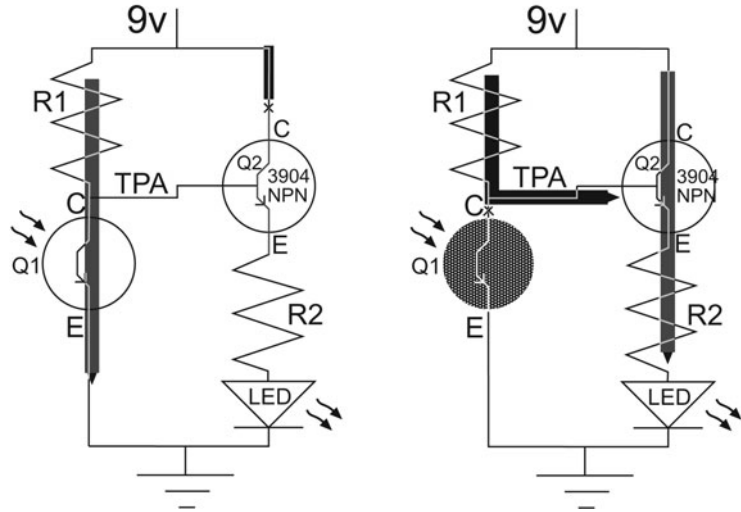

Figure L12-9
1. Look at Figure L12-9. When there is IR input to the base of Q1, the phototransistor, voltage and current flow through it directly to ground. Nothing is left at TPA to tickle the base of Q2. So Q2 stays off. No voltage or current moves through Q2. As long as Q1 stays on, Q2 remains off. No power for the LED.